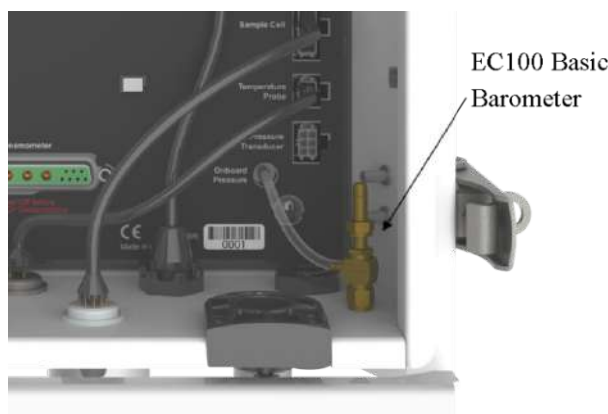

FIGURE A-1. Location of EC100 basic barometer
1. The EC100 has an on-board barometer that Campbell Scientific refers to as the EC100 basic barometer. This barometer is mounted on the EC100 electronics board as shown in FIGURE A-1.